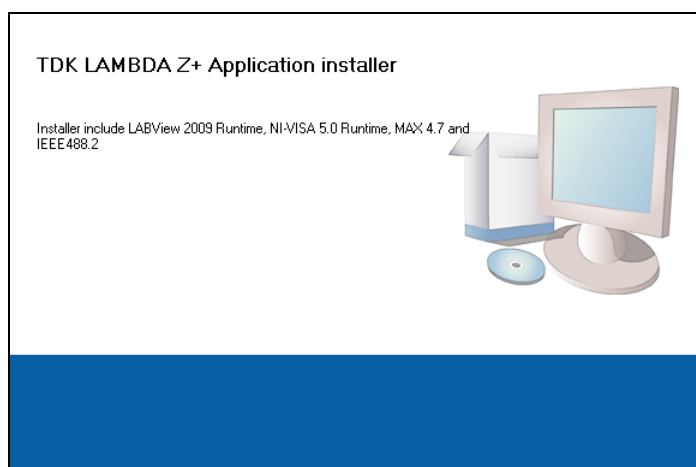

Fig 2
3. The installation will start as shown in Fig 2